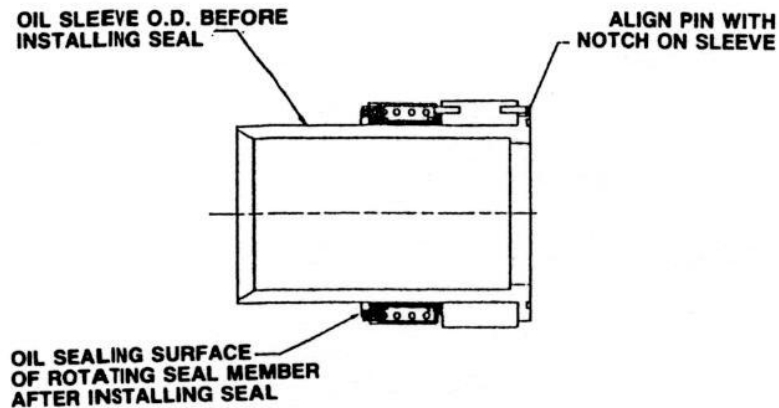

Figure 5
3. Oil sealing surface as shown. See Figure 5.